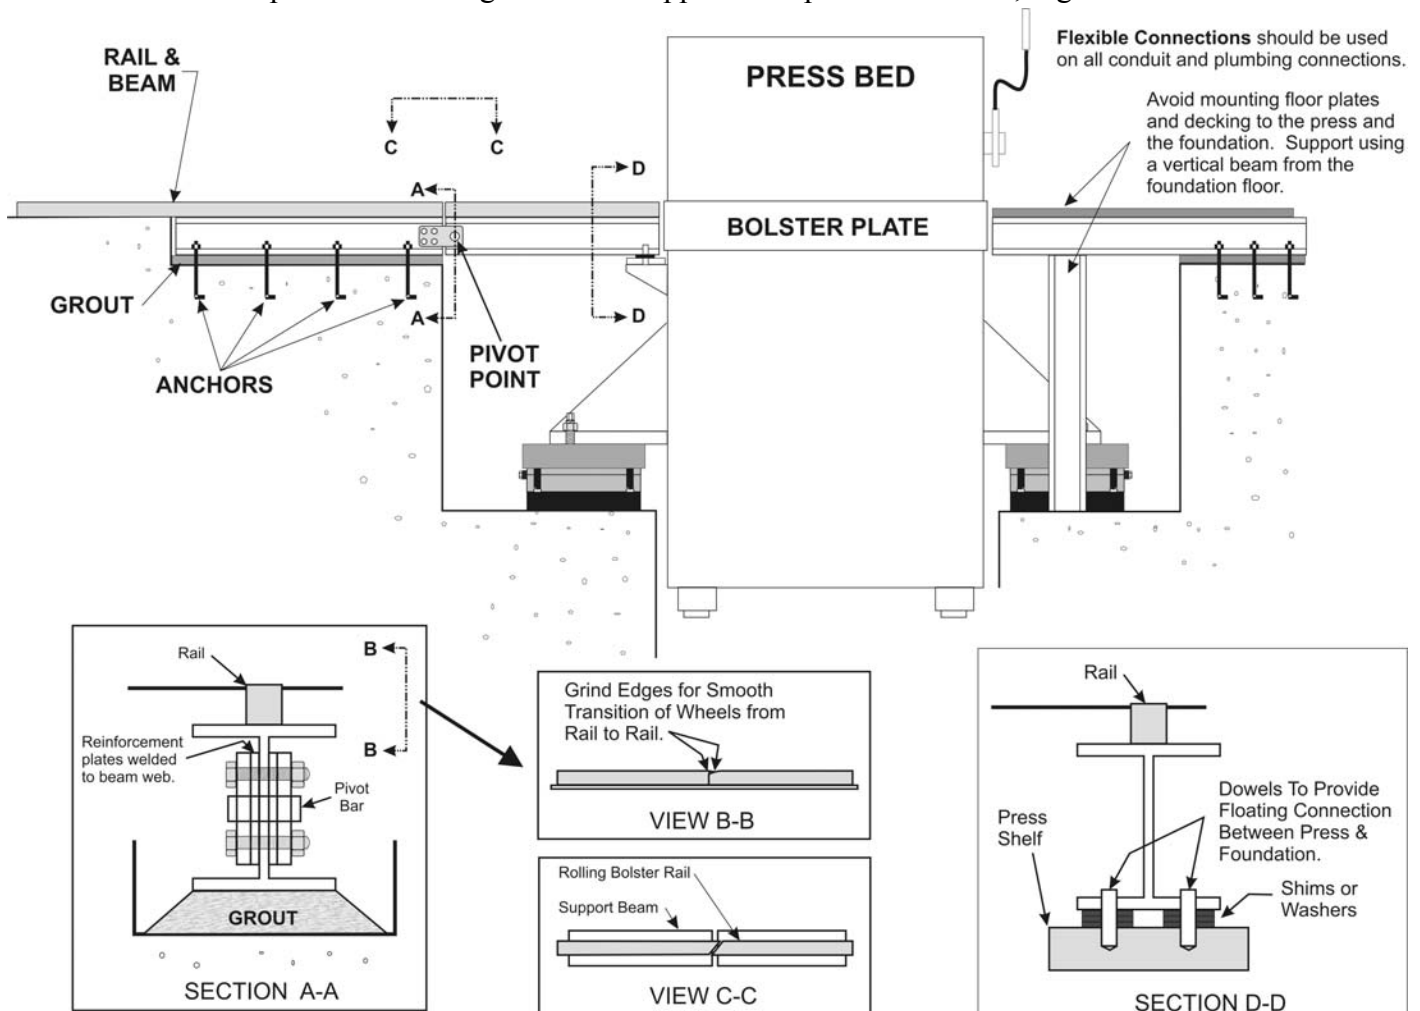

FIGURE 5
2) METHOD TWO (Figure 5)
- ▶ In this method, each rolling bolster beam is divided into two. One section is anchored to the floor and the other is designed to float with the press. The ends of the floating sections are supported by pivot points located at the edge of the pit and on the press bed as shown in Figure 5. The beam/rails are restricted from moving horizontally using guide pins and clearance holes or stops welded on the support shelf to contain the sides of the beam/rails.